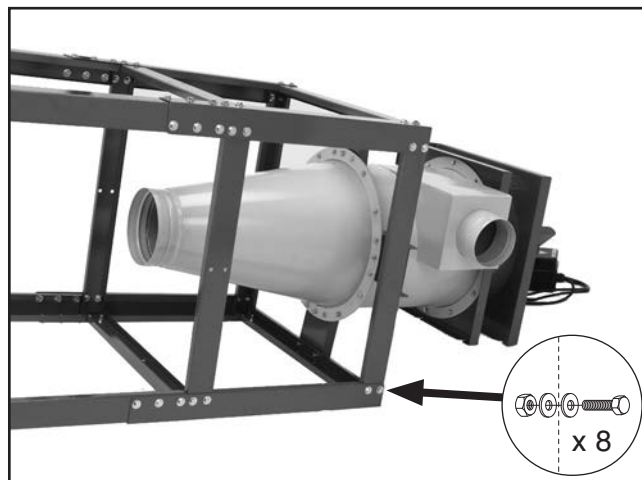

Figure 13. Collector assembly fastened to the stand.
12. Fasten the collector assembly to the stand with (8) $\frac{3}{8}$ "-16 x 1" hex bolts, (16) $\frac{3}{8}$ " flat washers, and (8) $\frac{3}{8}$ "-16 lock nuts, as shown in **Figure 13**.